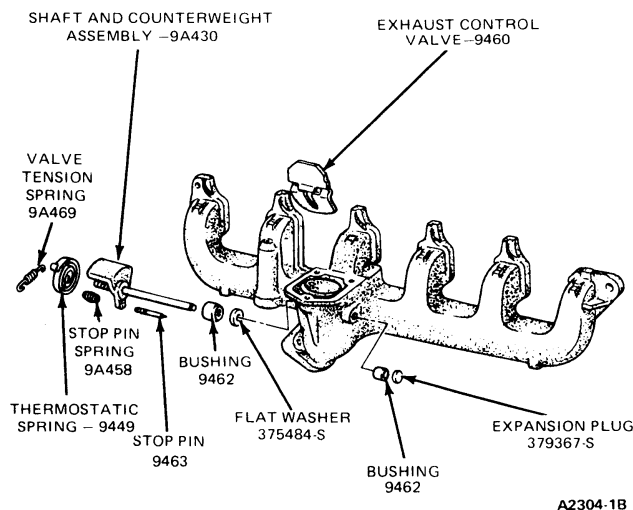

FIG. 15 Exhaust Manifold Assembly
4.9L (300 CID) I-6 engines utilize a thermostatic spring and counterweight type exhaust control valve which is integral with the exhaust manifold, (Fig. 15). Service procedures are covered under Emission Systems Service, Part 29-01 and Part 50-26 of Volume 5, Pre-Delivery, Maintenance and Lubrication.
2. Remove the valve tension spring and the thermostatic spring from the exhaust control valve shaft (Fig. 15).